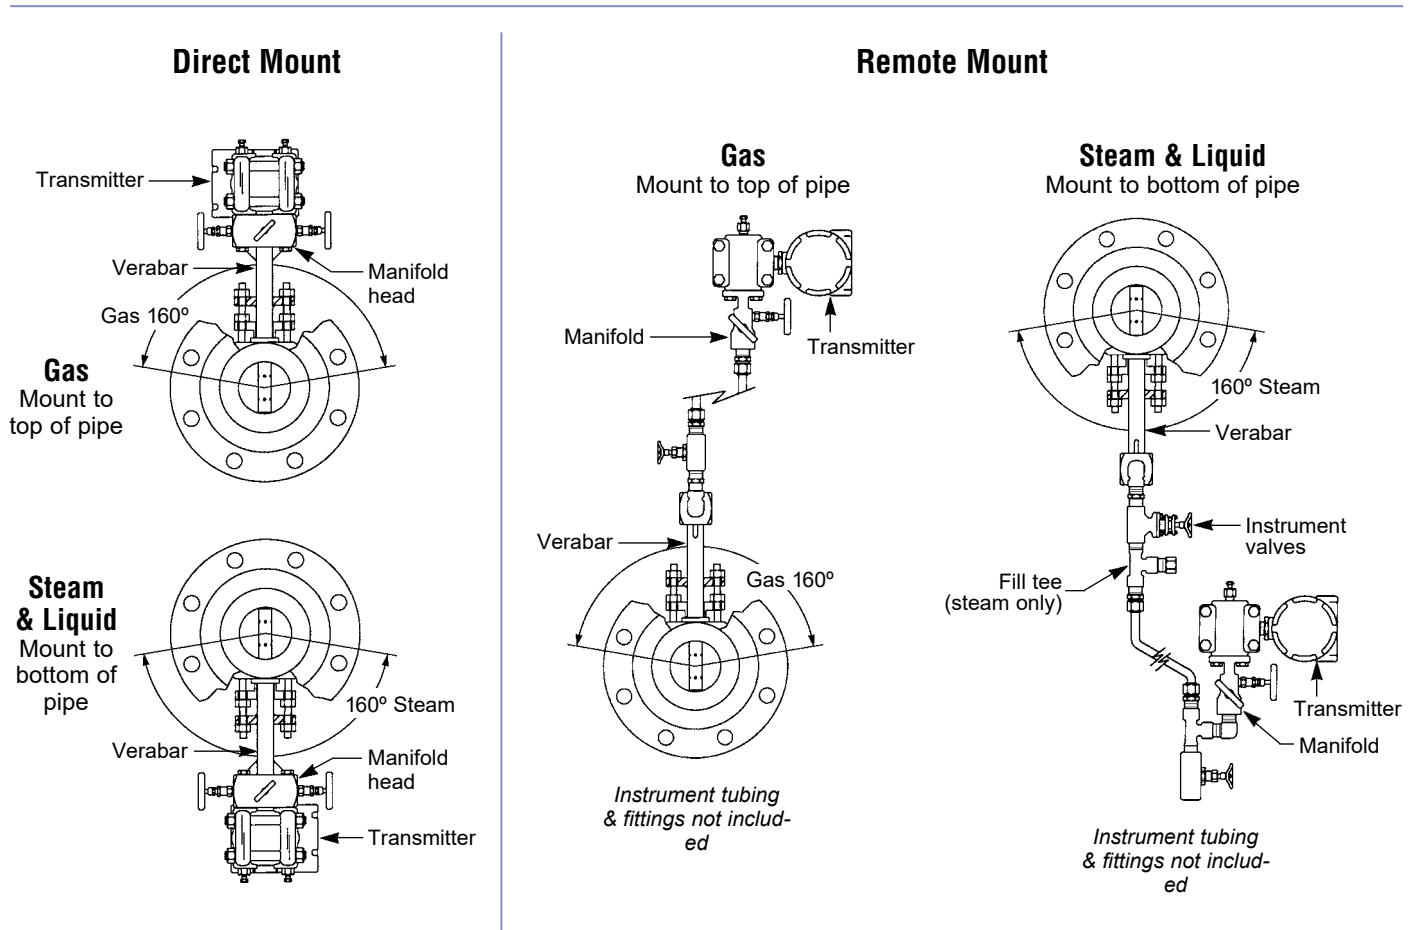

Figure 1. Accelabar® Installation Orientation
For air or gas applications, the Accelabar® must be mounted with the instrument head positioned in the upper 160° position. For liquid and steam applications, the Accelabar® must be mounted with the instrument head positioned in the lower 160° position (See Figure 1).
- Refer to Figure 1 for proper Accelabar® orientation for horizontal applications (orientation is not critical for vertical applications).